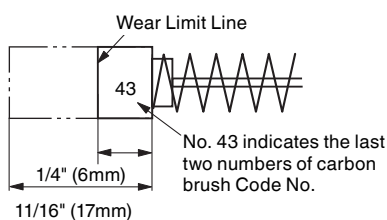
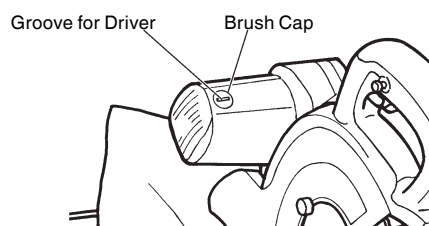

Fig. 54
Fig. 55
- (1) Loosen the 8mm nut and tighten the two 8mm hexagon socket set screws until the power tool operates smoothly without looseness.
- (2) Properly tighten the 8mm nut after completing these adjustment.
3. Inspecting the carbon brushes (Fig. 54 and Fig. 55)
Therefore, inspect the carbon brushes periodically and replace them when they have become worn to the wear limit line as shown in Fig. 54.
The carbon brushes can easily be removed after removal of the brush caps (see Fig. 55) with a slotted (minus) screwdriver.
NOTE: When replacing the carbon brushes, use only metabo HPT carbon brushes having "43" in the last two digit of its Code No. (see Fig. 54). If you use other carbon brushes, the electric brake will not operate.